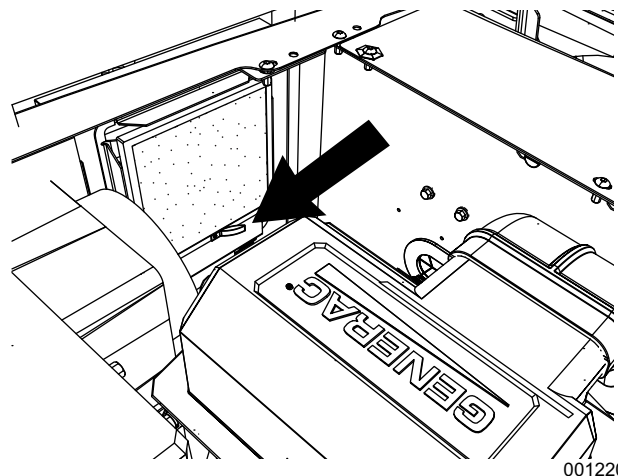

Figure 4-5. Replacing the AVR Filter
3. See Figure 4-5. Grasp rubber lifting strap and remove filter from filter housing.